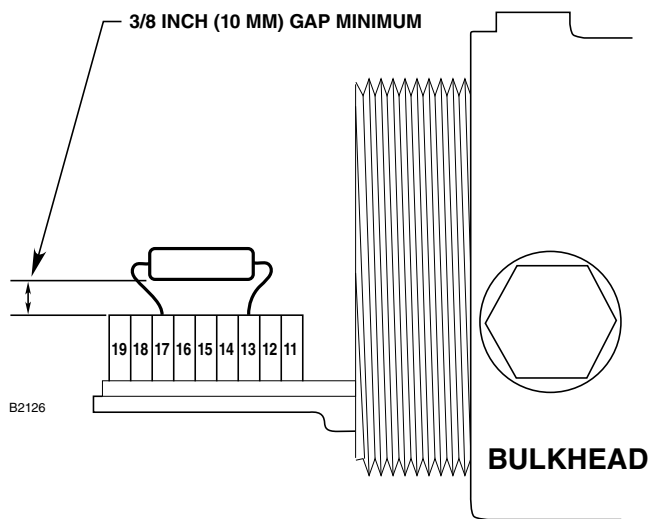

Figure 13—EOL Resistor Installation
Figure 13 shows an EOL resistor installed within the integral wiring compartment of the detector (refer to “EOL Resistors” for details).
3. Bend the leads and install the EOL resistor as shown in Figure 13.